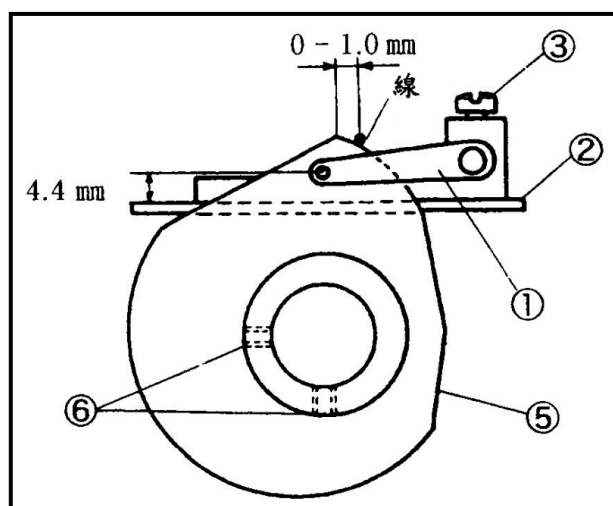
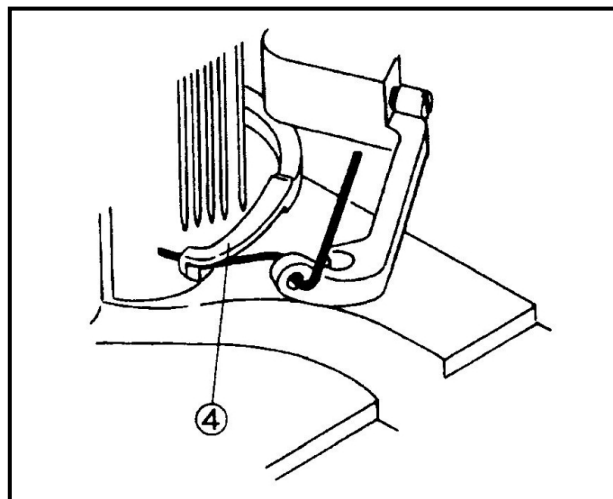

Fig.44
Fig.45
支撐板②和過線片①的標準距離是 4.4mm。放鬆螺絲③再上下調整移動線孔。(Fig.44)
- 增加線量時，將過線片①往下移。
- 減少線量時，將過線片①往上移。
當大的上勾針④勾到小勾針上的線時(Fig.45)，網線和凸輪的尖端距離為 0-1.0mm 之間，調整凸輪⑤時鬆開螺絲⑥。(Fig.44)
The moment the top cover thread is hooked with the top cover thread hook④ (Fig. 45), the thread is held at the point 0-1.0 mm apart from the top of the take-up⑤. Loosen the screws⑥ to adjust it. (Fig.44)